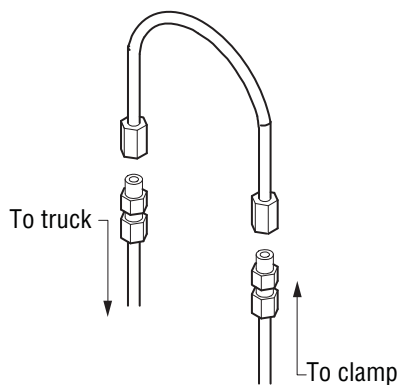

Figure 4-1, Jumper Line
2. Filtering can be accomplished by installing a jumper line and operating each equipped hydraulic function in each direction for a minimum of 30 seconds. (Figure 4-1)
1. Purging can be accomplished by installing a jumper line and operating each hydraulic function (clamp, rotate, and side shift if equipped) in each direction for a minimum of 30 seconds. (Figure 4-1)